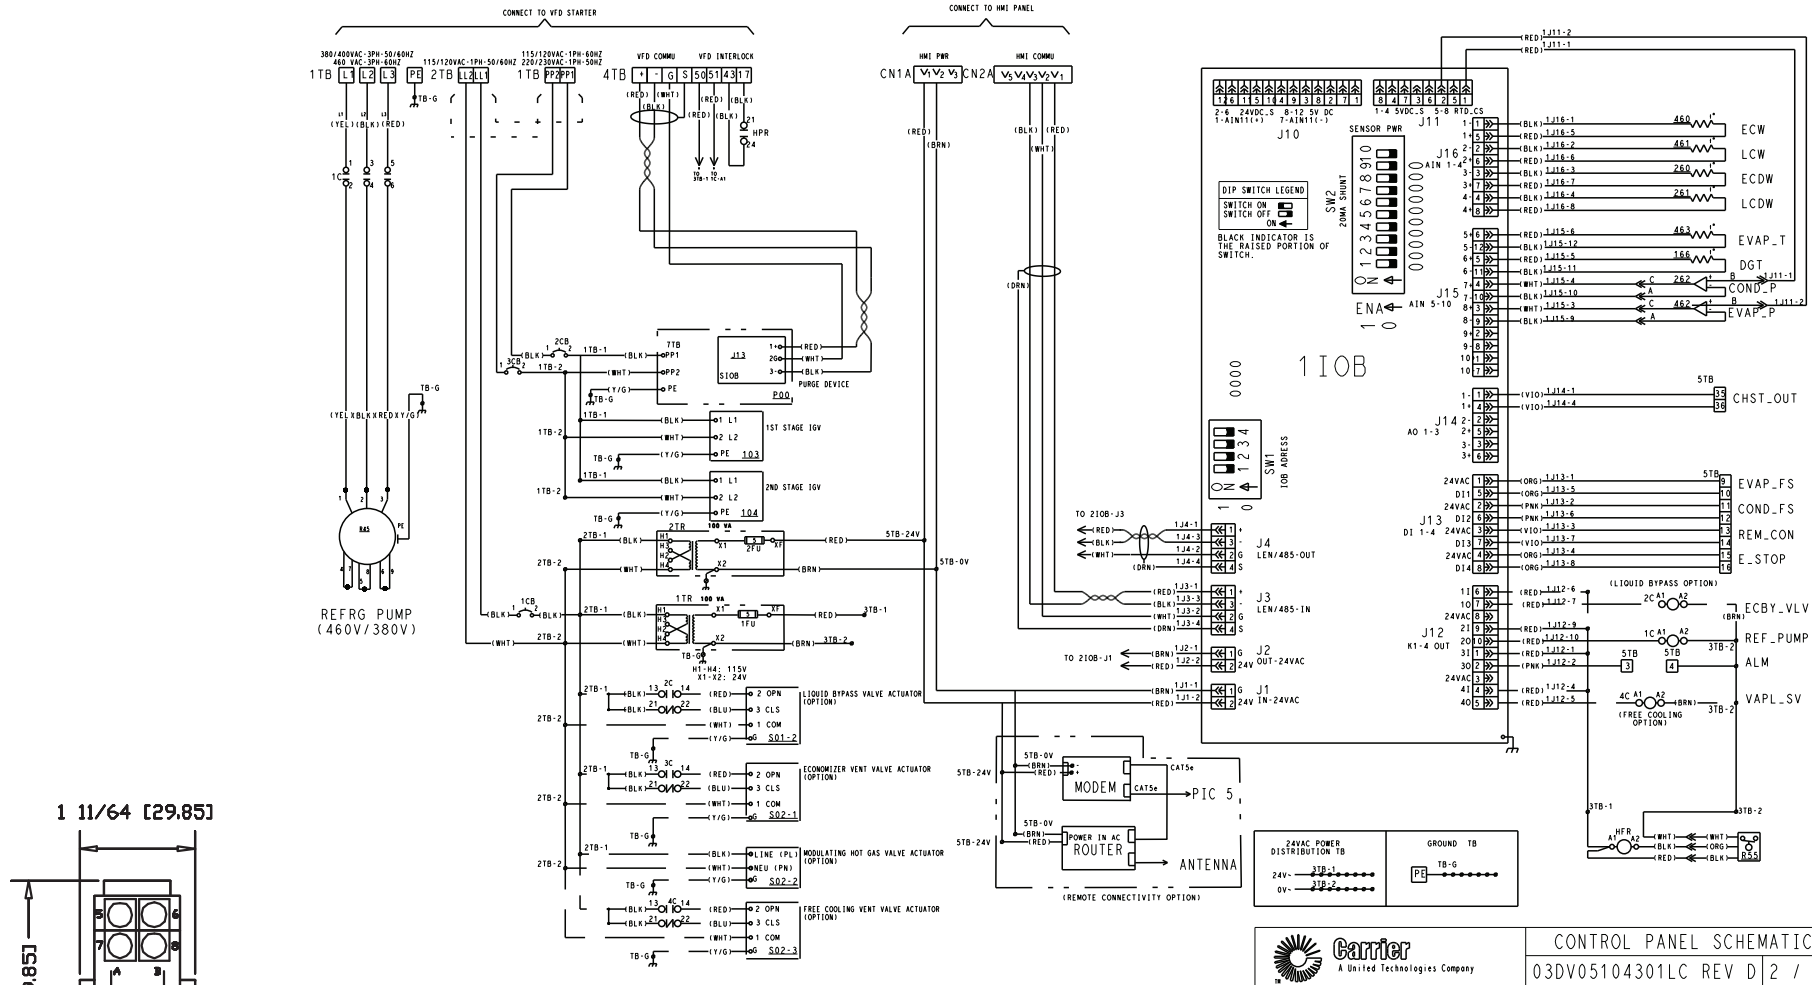

Fig. 2 — IOB 1
- See Fig. 2 for IOB1 wiring diagram.
- For pressure readings, only Vout (output) terminal is indicated. See Fig. 2 for Vin (+) and ground (—).